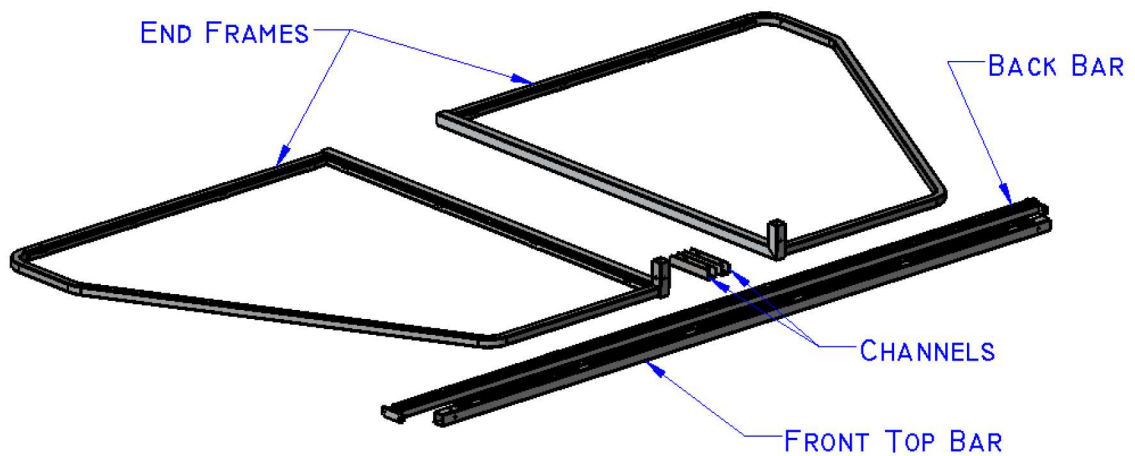

Figure 1
1. Begin by laying out the front top bar to the end frames. Place the end frames far enough apart to fit the top crossbar between them (Fig. 1).